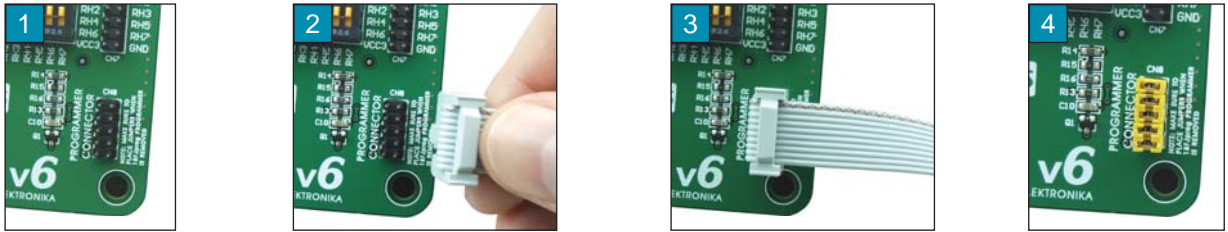

Figure 2-3: Connecting programmer
When the development system is connected to the power supply source and the appropriate driver is successfully installed, it is necessary to place a 2x5 female connector provided on the *18Fprog* programmer on the 2x5 male connector CN8 provided on the development system, as shown in Figure 2-3.
During the programming, the programmer is used for loading a hex. file into the microcontroller via RB6, RB7 and MCLR microcontroller pins. When the programmer is connected to the development system, these pins cannot be used as I/O pins since they are used for programming. In order to use them as I/O pins, it is necessary to place jumpers over the pins of the 2x5 male connector CN8, as shown in Figure 2-3 (4).